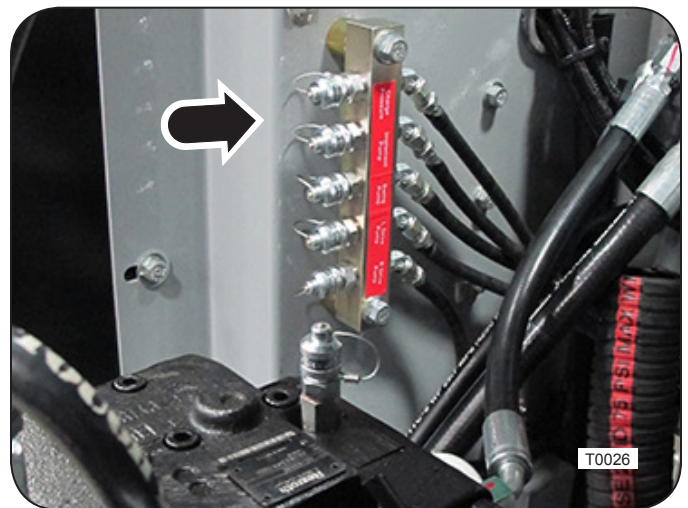

Figure 2: Implement Pump Pressure Gauge Port Tap
5. Connect the 600 psi pressure gauge, with the quick-couple adapter attached, to the gauge port tap provided on the centralized pressure check manifold. See Figure 2.
3. Connect the 10,000 psi pressure gauge, with the quick-couple adapter attached, to the gauge port tap provided on the centralized pressure check manifold. See Figure 2.